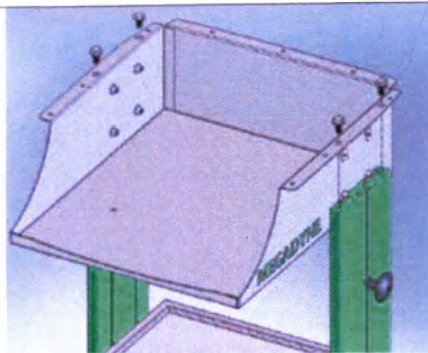

Рисунок 9
9. Align T Nut Fasteners with slots in Extrusions and slide Upper Tray into place as shown in figure 9. Secure the Upper Tray (5) in place with Thread Forming Screws (13) and tighten the screws using a 9/16" (14mm) hex socket wrench to a torque value of 15 ft-lbs. (20 N-m). Tighten the eight Socket Head Cap Screws using a 3/16 inch Hex Key to a torque value of 42 in-lbs. (4.9 N-m).